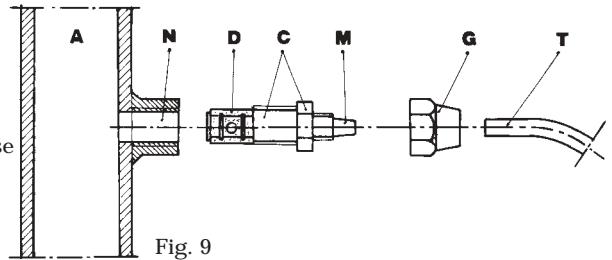

Fig. 9
- g. - Select the most appropriate injection point on a pipe of the plant to be treated and there fit a 3/8" female steel gas thread connector (similar to BSPm). This connector is not supplied with the pump. Screw the injection valve to the gas connector, inserting a gasket as shown in Fig. 9. Then connect the discharge hose to the conical connector on the injection valve and fix it with the supplied tube nut G. The injection valve also acts as no return valve by means of a cylinder sleeve (elastomer, standard supplied in Viton).
3.1 - INJECTION VALVE INSTALLATION DIAGRAM Fig. 9